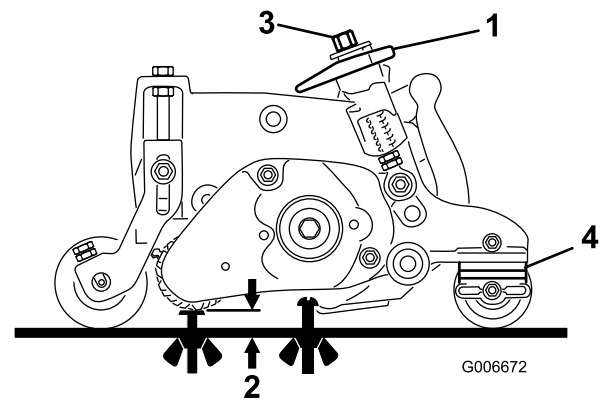

Figure 22
3. Rotate the quick-up levers (Figure 22) to the engaged position (handle pointing toward the front of the cutting unit). Use the **Height of Cut (HOC)** and **Height of Groom (HOG)** recommended range chart for setting the gauge bar.
4. On 1 end of the groomer reel, measure the distance from the lowest tip of the groomer blade to the working surface (Figure 22). Turn the height-adjuster knob (Figure 22) to raise or lower the groomer blade tip to the desired height.